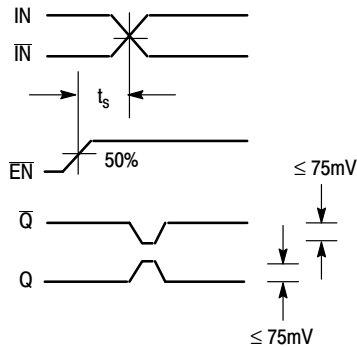

Figure 3. Setup Time
5. The setup time is the minimum time that EN must be asserted prior to the next transition of IN/ $\bar{IN}$ to prevent an output response greater than $\pm 75\text{ mV}$ to that IN/ $\bar{IN}$ transition (Figure 3).
- The setup time is the minimum time that $\overline{\text{EN}}$ must be asserted prior to the next transition of $\text{IN}/\overline{\text{IN}}$ to prevent an output response greater than $\pm 75\text{ mV}$ to that $\text{IN}/\overline{\text{IN}}$ transition (Figure 3).